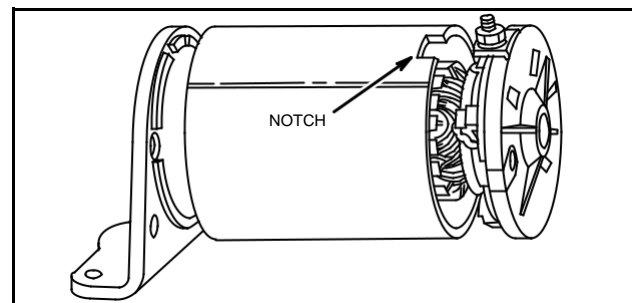

Fig. 714 – ASSEMBLING STARTER
This design of starter housing has a large notch which indexes over the insulated terminal, Fig. 714.
1. While pushing down on armature and brush end cap. Slide starter housing down until large notch indexes with insulated terminal boss, Fig. 714. DO NOT damage magnets in starter housing.